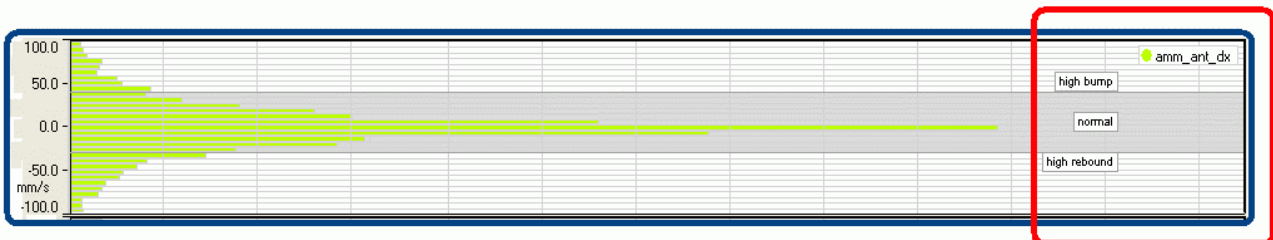
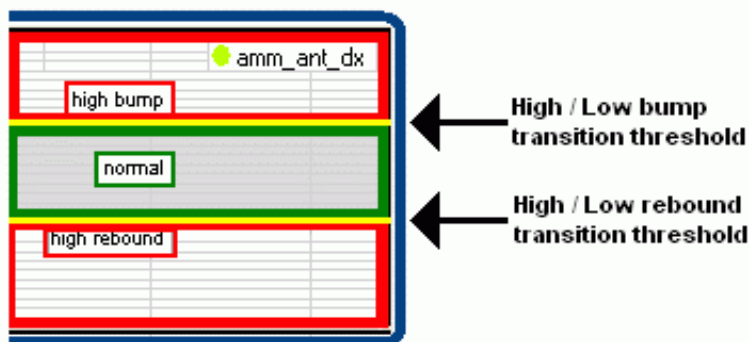

Figure 12a –Histogram.
Figure 12b – Particular.
This visualization mode allows to analyze suspensions travel at high and low speeds while bumping and rebounding. With reference to the following figures, please note that **Figure 12b** is an enlargement of red box of **Figure 12a**.
- Bump and rebound **Low speeds** are included in the grey band and are labelled “Normal” in **Figure 12a** (green box of **Figure 12b**).
- Bump and rebound **High/Low transition thresholds** are indicated by the yellow upper and lower limit of green box (**Figure 12b**).
- Bump and rebound **High speeds** are indicated by the red boxes in **Figure 12b**, labelled “high bump” and “high extension” in both figures.